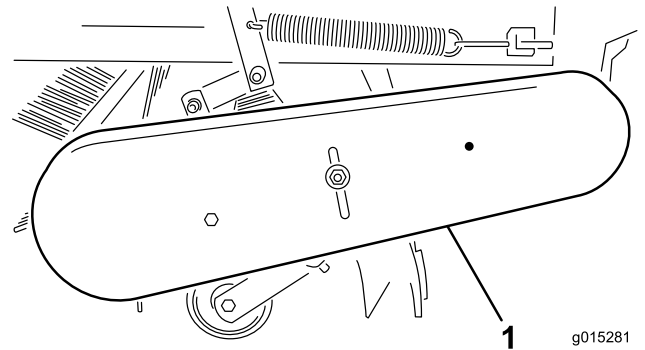
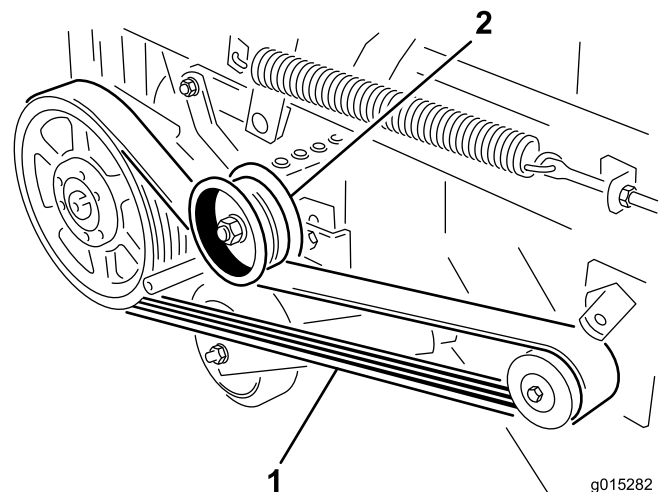

Figure 27
Figure 28
1. Remove the 2 bolts, nut, retaining nut, and washer securing the lower belt guard to the frame. Remove the guard (Figure 27).
2. If the belt has too much slack, loosen the idler pulley nut, press down on the idler pulley until the desired tension is obtained and tighten the idler pulley nut (Figure 28).
4. Remove the lower belt guard and reel drive belt (Figure 27 and Figure 28).